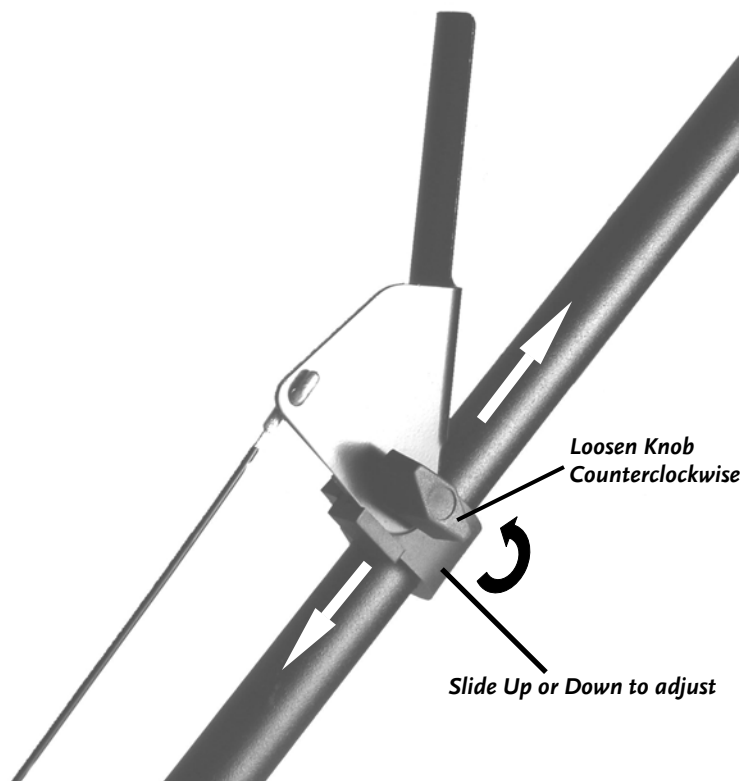

Figure 5
1. Loosen the Knob on the PTA™ Control by turning it counterclockwise (**Figure 5**).